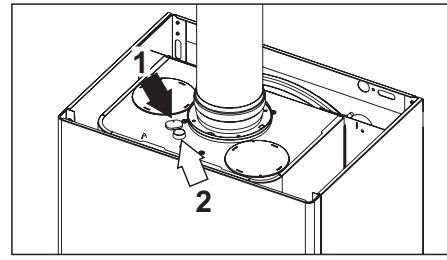

fig. 29 - Fume analysis DIVAtop MICRO F 24
Two test points are provided at the top of the boiler, one for fumes (ref. 1 - fig. 29) and the other for air (ref. 2 - fig. 29). To take samples: